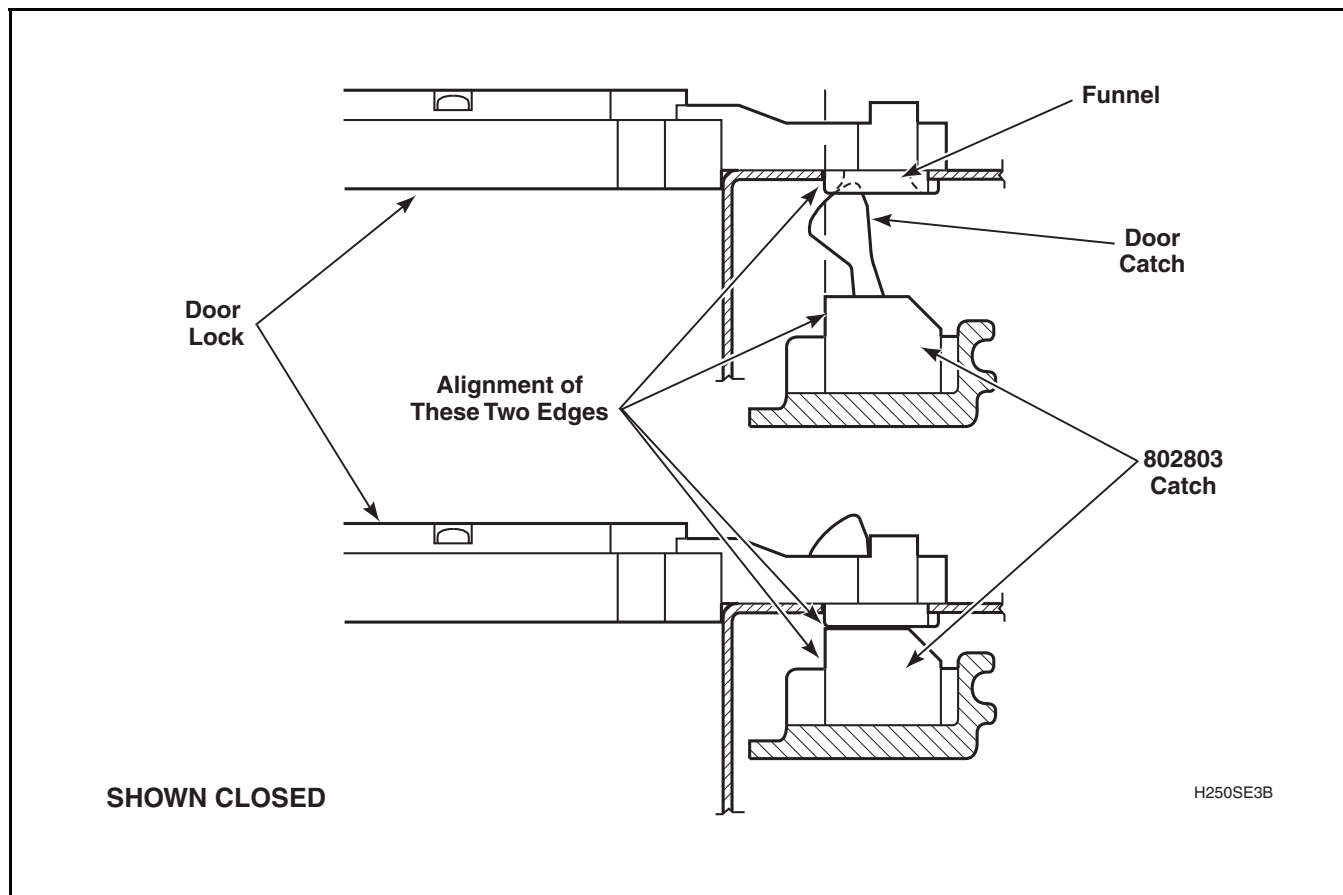

Figure 9
- Adjust door catch so the outside edge is aligned with the edge of the lock. Refer to *Figure 9*.
- Visually check that the door catch properly engages the funnel of the door latch/switch assembly. Refer to *Figure 9*.